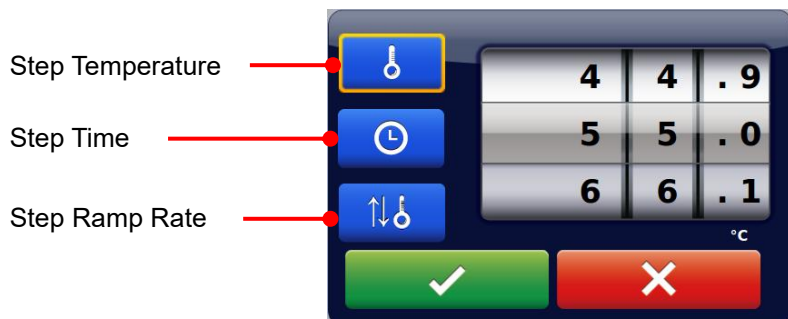

Figure 13. Temperature/Time/Ramp rate setting
5.5 and a spinning wheel will pop up as shown in Figure 13, allowing you to modify the **Step Temperature, Step Time, or Step Ramp Rate**.